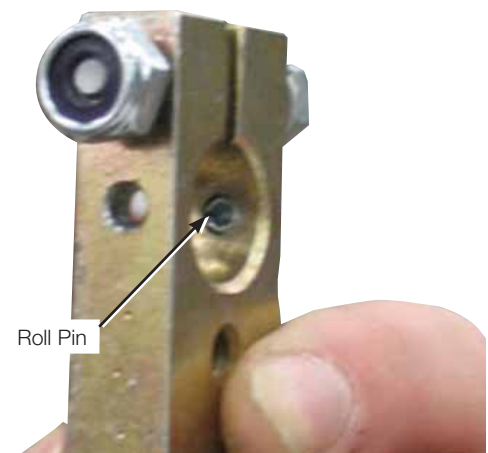

Figure 36.
- l. Before installing the new crank lever assembly, ensure that the partially inserted roll pin does not interfere with the shaft hole. Refer to Figure 36.